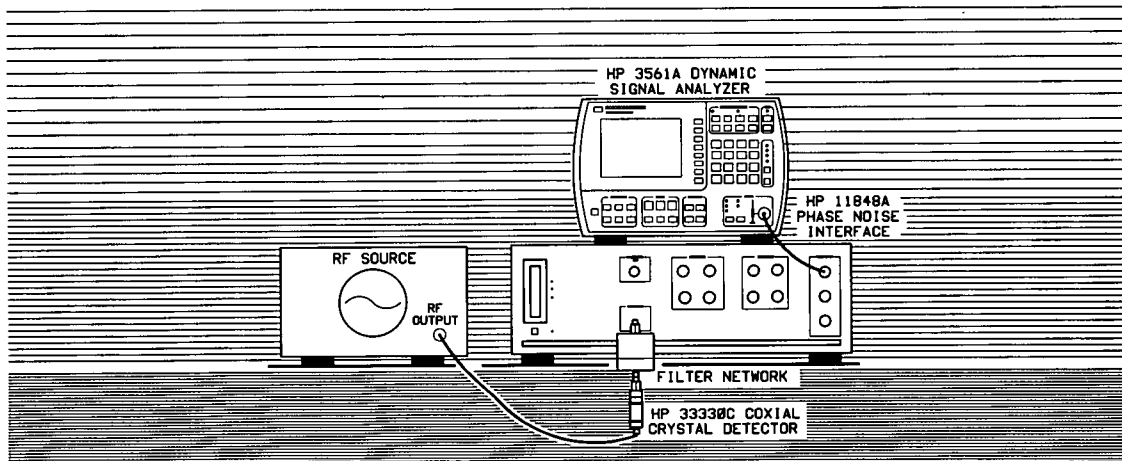

Figure 3-30. Setup Diagram for AM Noise Measurement Example.
3. When the **Connect Diagram** appears on the HP 3048A's display, connect the signal paths as shown in Figure 3-30. Table 3-24 contains setup considerations that will help ensure that your measurement results are valid.